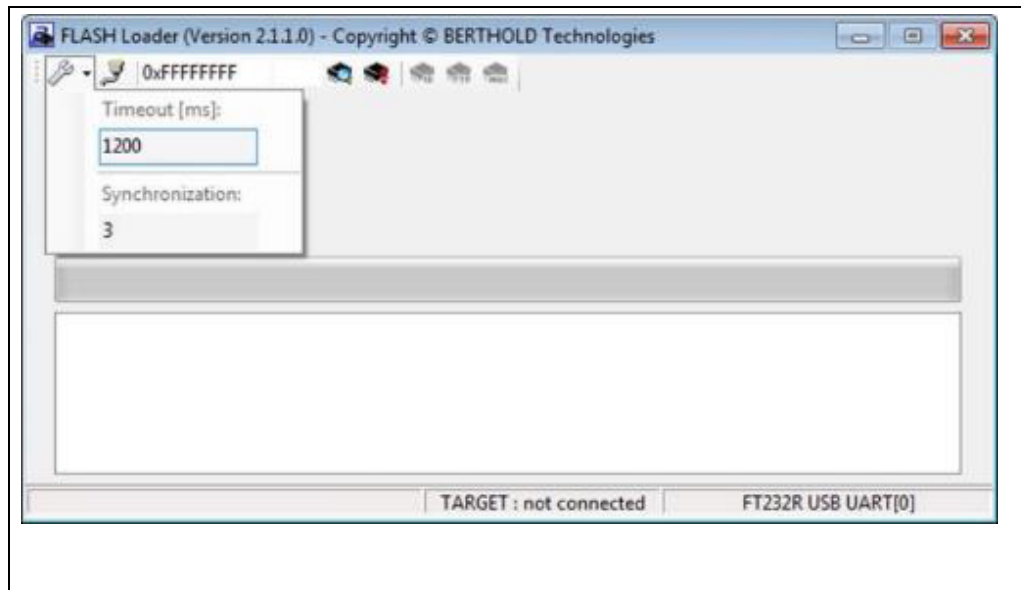

Fig. 50 Flash Loader Main Screen
- 5. Click on the selection arrows or click in the field **<Sample Rate>** (Fig. 50, item 8) in order to select or enter the log interval.